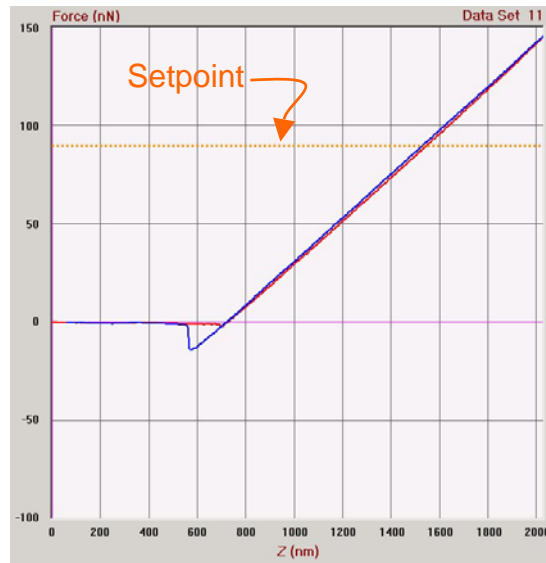

Figure 10-9 The SPM setpoint displayed against a force-distance curve.
4. Select the *Graph* tab panel and check the *Show Setpoint* checkbox. A horizontal orange line will be overlaid on the graph to indicate the current setpoint force value. This is also shown in Figure 10-9. It may be necessary to change the vertical scale of the graph if the current setpoint force is higher than the range of the indentation force measurement.